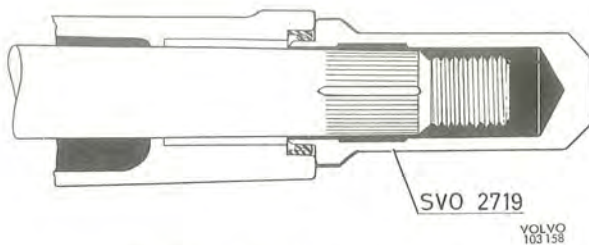

Fig. 6-58. Fitting the pitman arm shaft
7. Turn the steering cam so that the ball nut is moved to the lower end position. Fit the nut guide onto the ball nut. Lubricate the oil seal (24) and fit the pitman arm shaft into position. When doing this, protect the oil seal with tool SVO 2719, see Fig. 6-58. Then turn the ball nut to the centre position. Fit the gasket (11) and steering box cover (12). Tighten the two bolts to a torque of 1.7—2.1 kgm (12—15 lb.ft.).
8. Place the spring guide (6) in position but without the springs (7). Fit the paper and steel shims as well as the stop plate (8). The gaskets have a